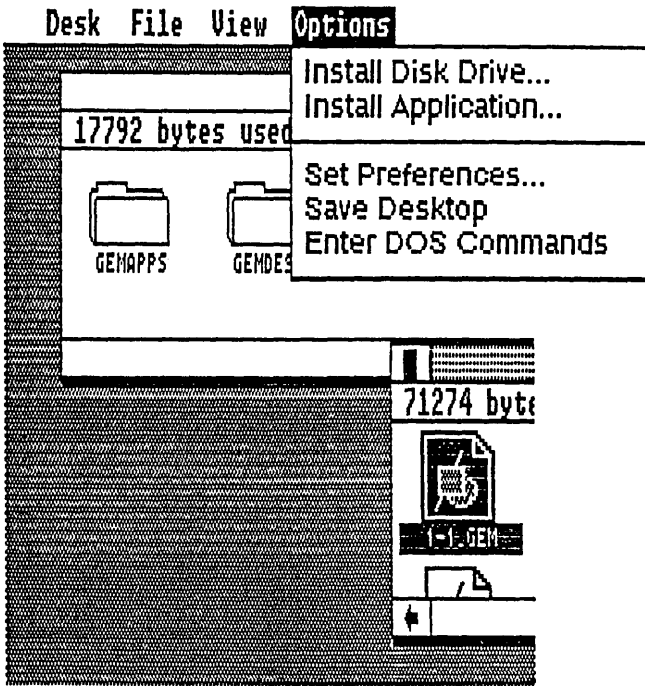

Fig. 1-11. When the pointer makes contact with the Menu Bar, a drop-down menu is displayed.
- When the pointer makes contact with any of the menu words, a menu is displayed (Fig. 1-11).